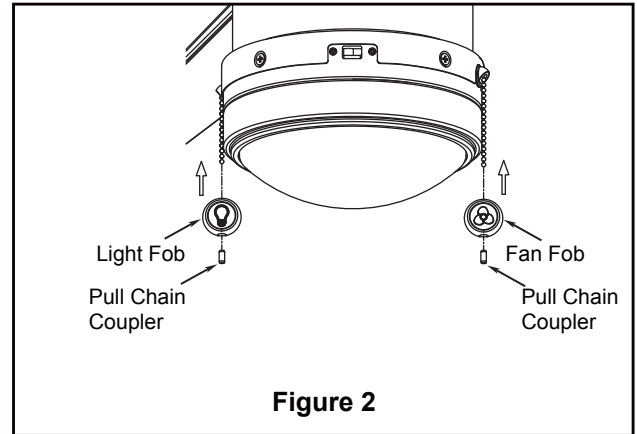

Figure 2
2. Remove one of the three screws in the support bracket of motor. Slightly loosen the remaining two screws. Assemble the switch housing to the support bracket using the two key slots in the switch housing. Replace the third screw and securely tighten all three screws. (Figure 2)
2. Install the fan fob and the light fob with pull chain coupler. (Figure 2)